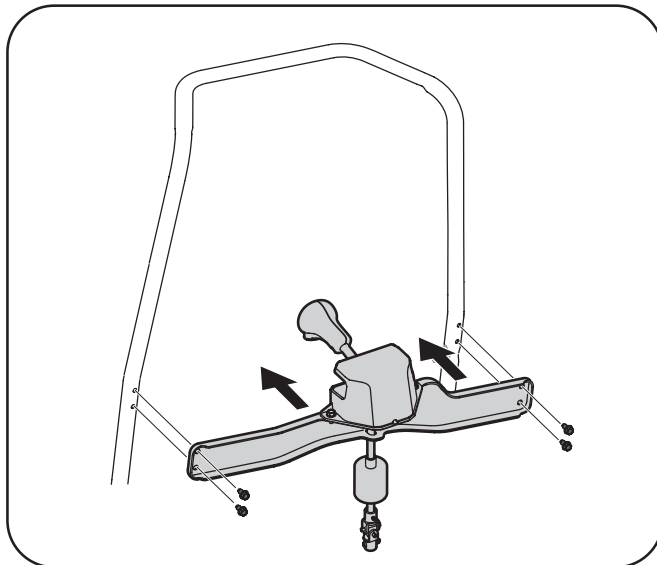

Figure 3-7
2. Using the four hex washer screws, install the chute rotation control assembly. See Fig. 3-7.